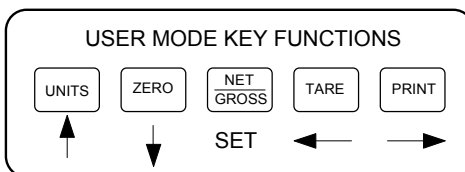

Figure 5-1: User Menu Key Assignments
3. Use the four directional keys (shown in Figure 5-1 below) to adjust the displayed value to the actual ID Number value. Increase the flashing digit by pressing the UNITS key. Decrease the flashing digit by pressing the ZERO key. Pressing the PRINT key or the TARE key will change the position of the flashing digit.
3. Use the four directional keys (shown in Figure 5-1 above) to adjust the displayed value to the actual line feeds value. Increase the flashing digit by pressing the UNITS key. Decrease the flashing digit by pressing the ZERO key. Pressing the PRINT key or the TARE key will change the position of the flashing digit.
3. Use the four directional keys (shown in Figure 5-1 above) to adjust the displayed value to the actual time value. Increase the flashing digit by pressing the UNITS key. Decrease the flashing digit by pressing the ZERO key. Pressing the PRINT key or the TARE key will change the position of the flashing digit.
3. Use the four directional keys (shown in Figure 5-1 above) to adjust the displayed value to the actual date value. Increase the flashing digit by pressing the UNITS key. Decrease the flashing digit by pressing the ZERO key. Pressing the PRINT key or the TARE key will change the position of the flashing digit.